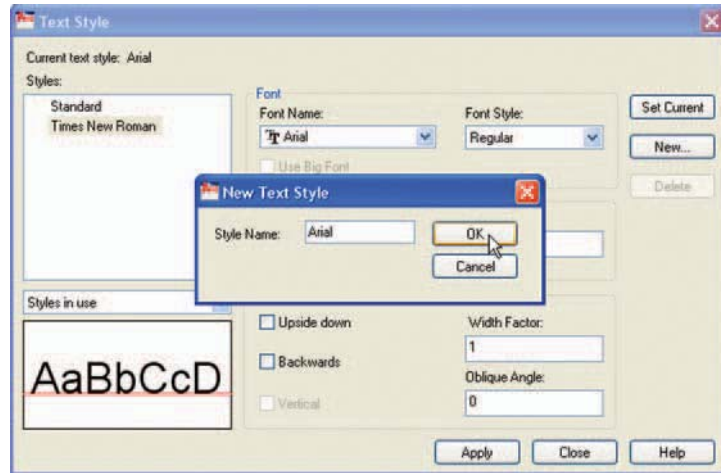

Fig. 4.9 The **New Text Style** sub-dialog
3. Left-click the **New** button and enter **Arial** in the **New** text style sub-dialog which appears (Fig. 4.9) and click the **OK** button.